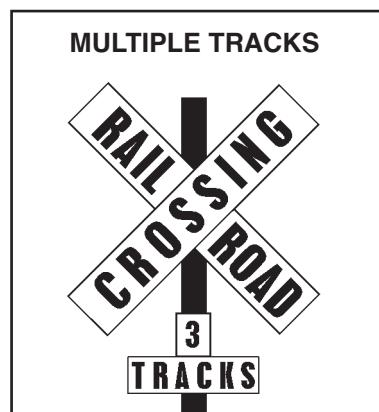

Figure 10.7
**Crossbuck Signs.** This sign marks the crossing. It requires you to yield the right of way to the train. If there is no white line painted on the pavement, you must stop the bus before the crossbuck sign. When the road crosses over more than one set of tracks, a sign below the crossbuck indicates the number of tracks. (See Figure 10.7.)